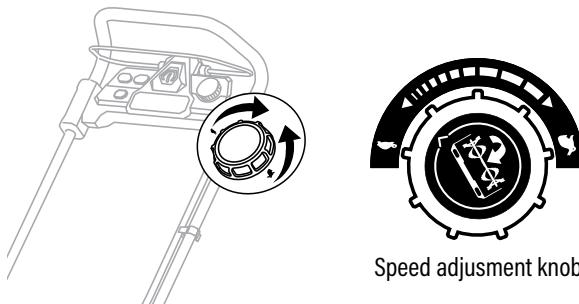

Fig. 9
1. To increase the speed, rotate the speed adjustment knob to rabbit symbol to throw the snow farther. (Fig. 9)
2. To decrease the speed, rotate the speed adjustment knob to tortoise symbol to throw the snow nearer. (Fig. 9)